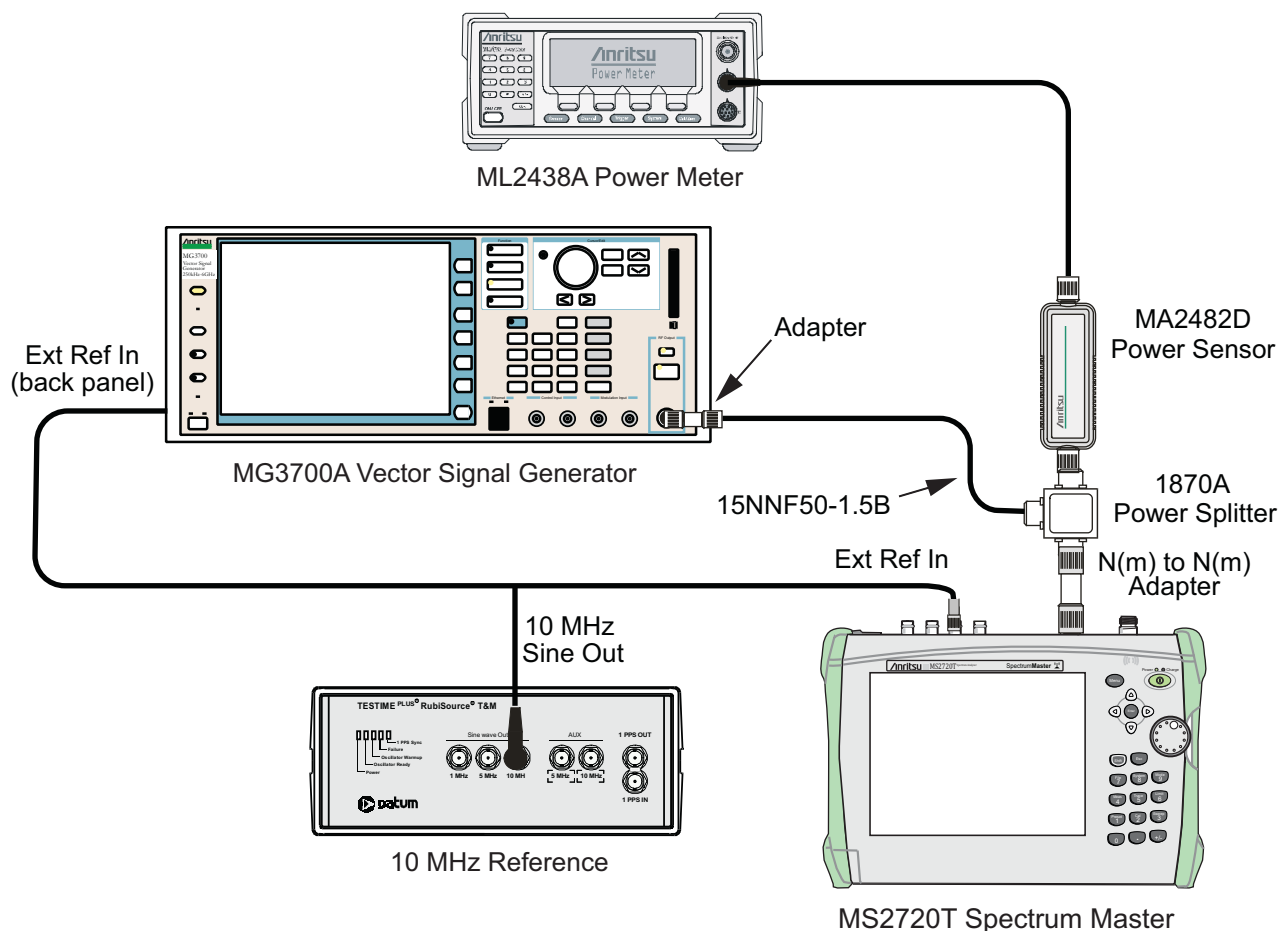

Figure 3-4. GSM/GPRS/EDGE, Test Setup
3. Connect the equipment as shown in Figure 3-4